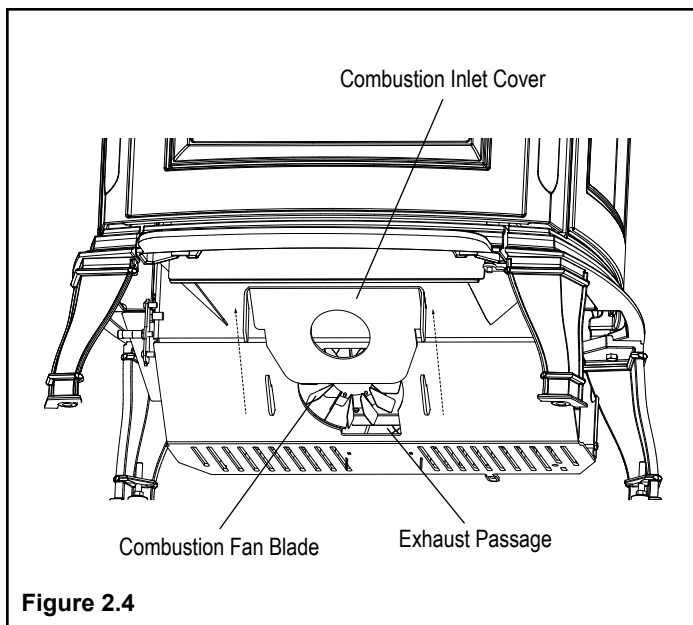

Figure 2.4
The combustion inlet cover is located behind the ash pan that must be removed to properly clean the combustion fan blade. Figure 2.4.
- Remove combustion inlet cover by pulling up on cover. This allows access to the combustion fan blade and exhaust path. Figure 2.4.